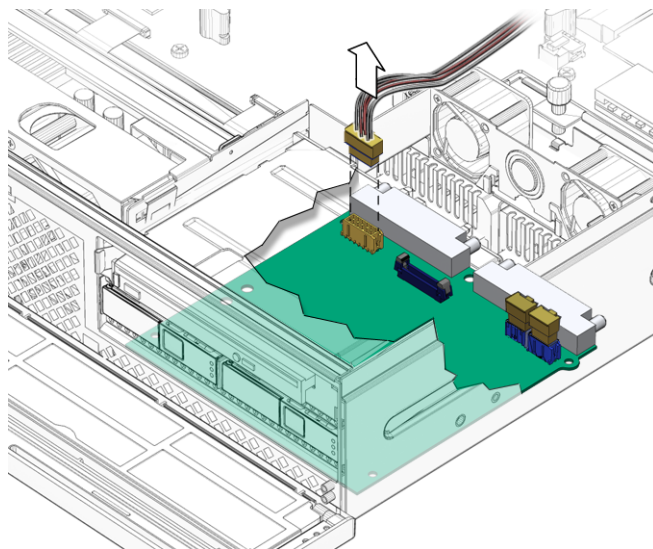

FIGURE 5-8 Disconnecting the Fan Assembly Cable
2. Disconnect the fan assembly cable at J3 on the power board (FIGURE 5-8).
3. Reconnect the fan assembly cable to connector J3 on the power board (FIGURE 5-8).